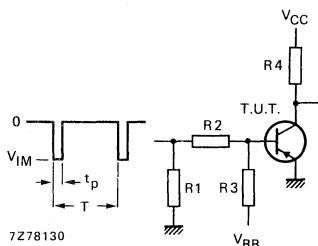

Fig. 3 Switching times test circuit.
**Switching times (see Figs 3 and 4)** $-I_C = 10 \text{ A}$ ;  $-I_{B\text{on}} = I_{B\text{off}} = 40 \text{ mA}$  $-V_{CC} = 30 \text{ V}$